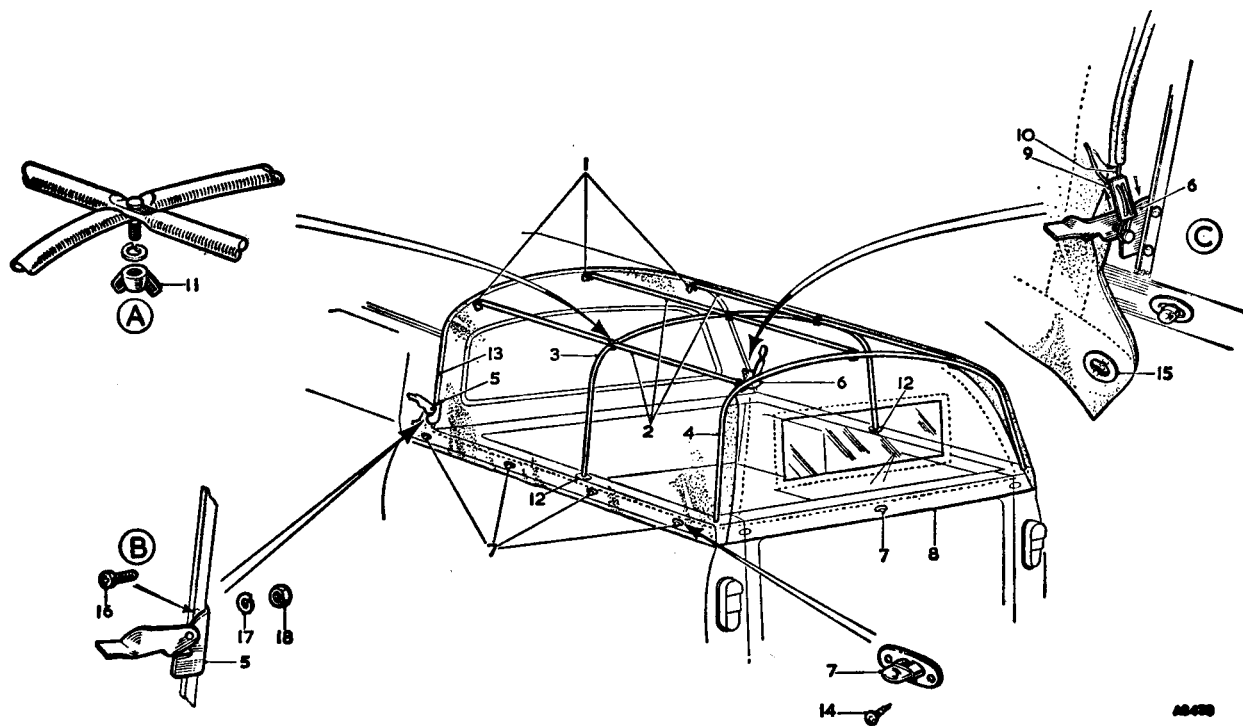

Fig. R.3
3. Engage the studs of one of the struts of the hole in the centre bracket at the top of the rear hoop, the centre hole pierced in the top of the centre hoop, and the hole in the centre bracket attached to the rear of the cab at the top (see Fig. R.3). Fit a spring washer and wing nut to each stud and tighten fully (inset (A) of Fig. R.3).
face of the bracket onto the body and drill two holes  $\frac{13}{64}$  in. (5.16 mm.) diameter. Fix the bracket to the channel with two of the No. 10 panhead screws, nuts, and spring washers, the heads of the screws facing outwards (see inset (B) of Fig. R.3). Repeat this operation with the L.H. bracket on the L.H. side of the channel.
of the plate, and returns down through the corresponding hole at the top. By adjusting the position of the cable in the plate the length of the cable can be varied as necessary (see inset [C] of Fig. R.3).